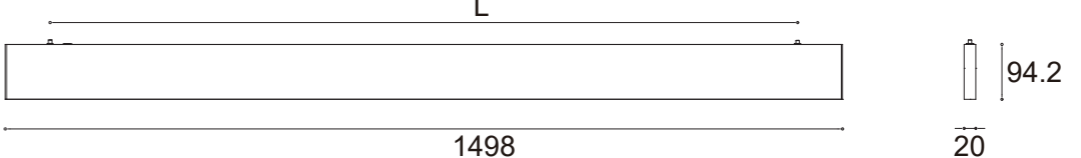

Fig 1.
- There are two installation options to choose from. (A/B) **See Fig 1.**